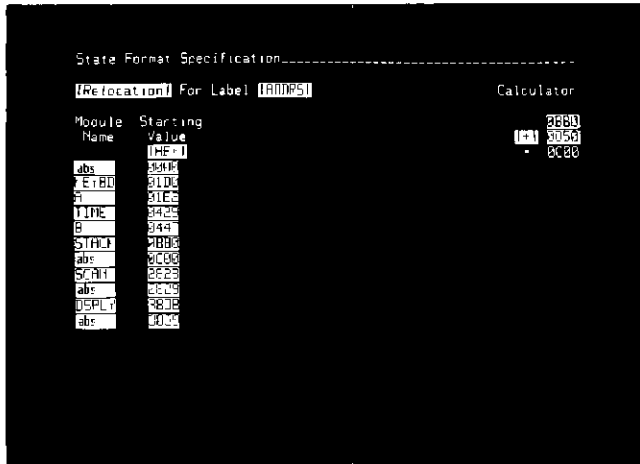

Figure 3-20. Relocation Menu Assignments
- 32 Move the cursor into the Starting Value field and type in 3839 beside the bottom "abs" entry. Your display should be the same as in figure 3-20.